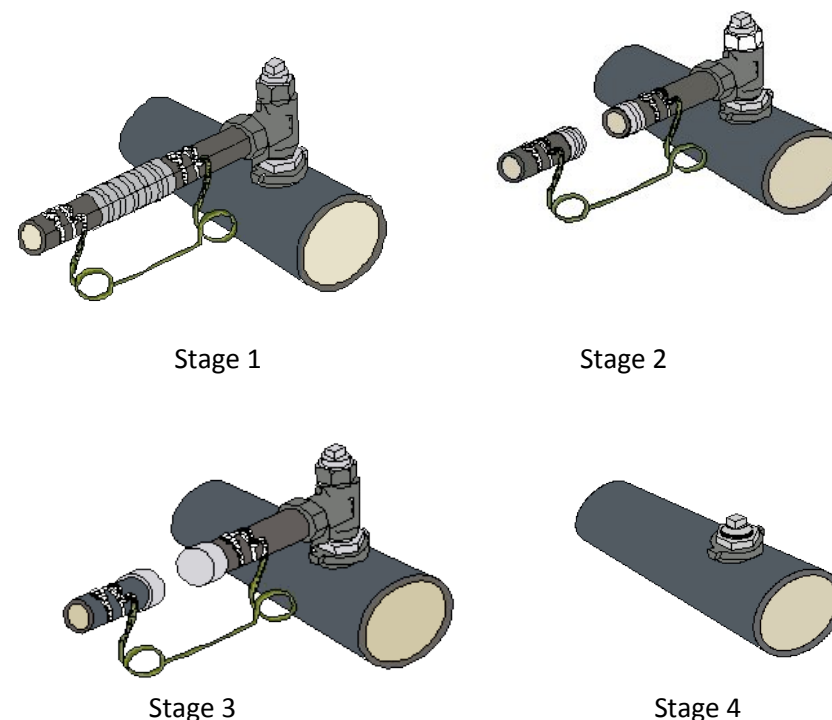

Figure 27 - Disconnection by cutting through bandaged pipe
2. A temporary continuity bond must be fitted to bridge across the section of pipe to be removed as per Figure 27 stage 1.
5. Seal the cut with mastic as cutting proceeds to minimise the discharge of gas. (Figure 27 Stage 2)
6. Remove the cut section of pipe, cap downstream (property side) pipe with an approved cap end. (Figure 27 Stage 3).
**Note: Tapered Plugs must not be used, Figure 27 Stage 4.**
14. Test the plug/tee with an approved leak detection solution (Figure 27 stage 4).